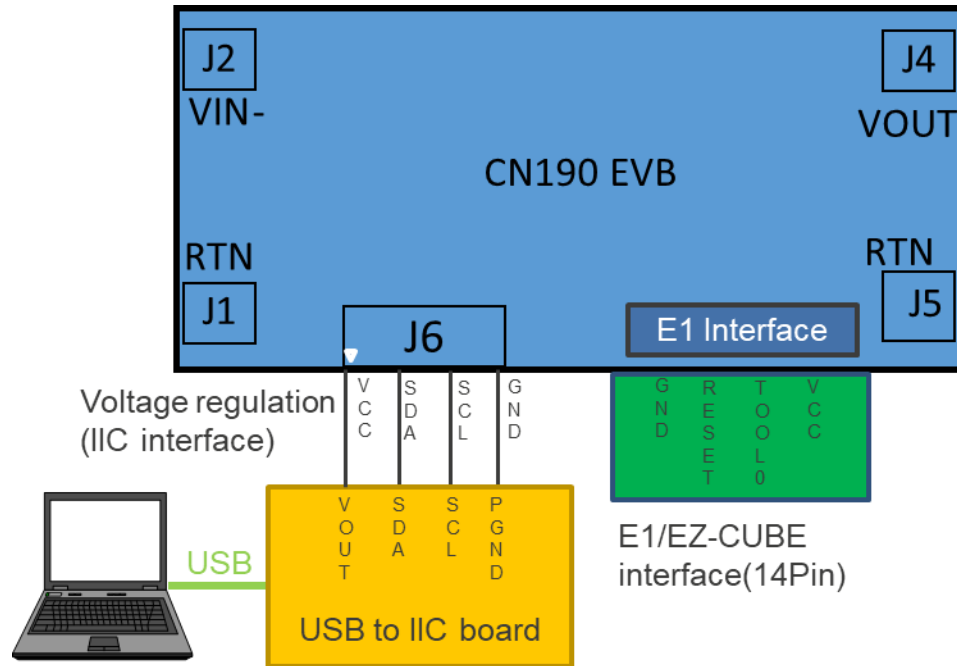

Figure 4 The Connection of Adjust the Output by GUI
1. Connect the power supply to the input terminals RTN(J1) and VIN-(J2). Connect the load to the output VOUT (J3) and RTN (J4). Connect the IIC interface on the CN190-1-5GPWR-REFZ board to the USB-to-IIC-board in order, make sure the setup is correct prior to applying any power or load to the board. Refer to Figure 4
2. Use a USB cable (type A (Male)-USB micro (Male)) to connect the PC to the USB-to-IIC-board. Refer to Figure 4.